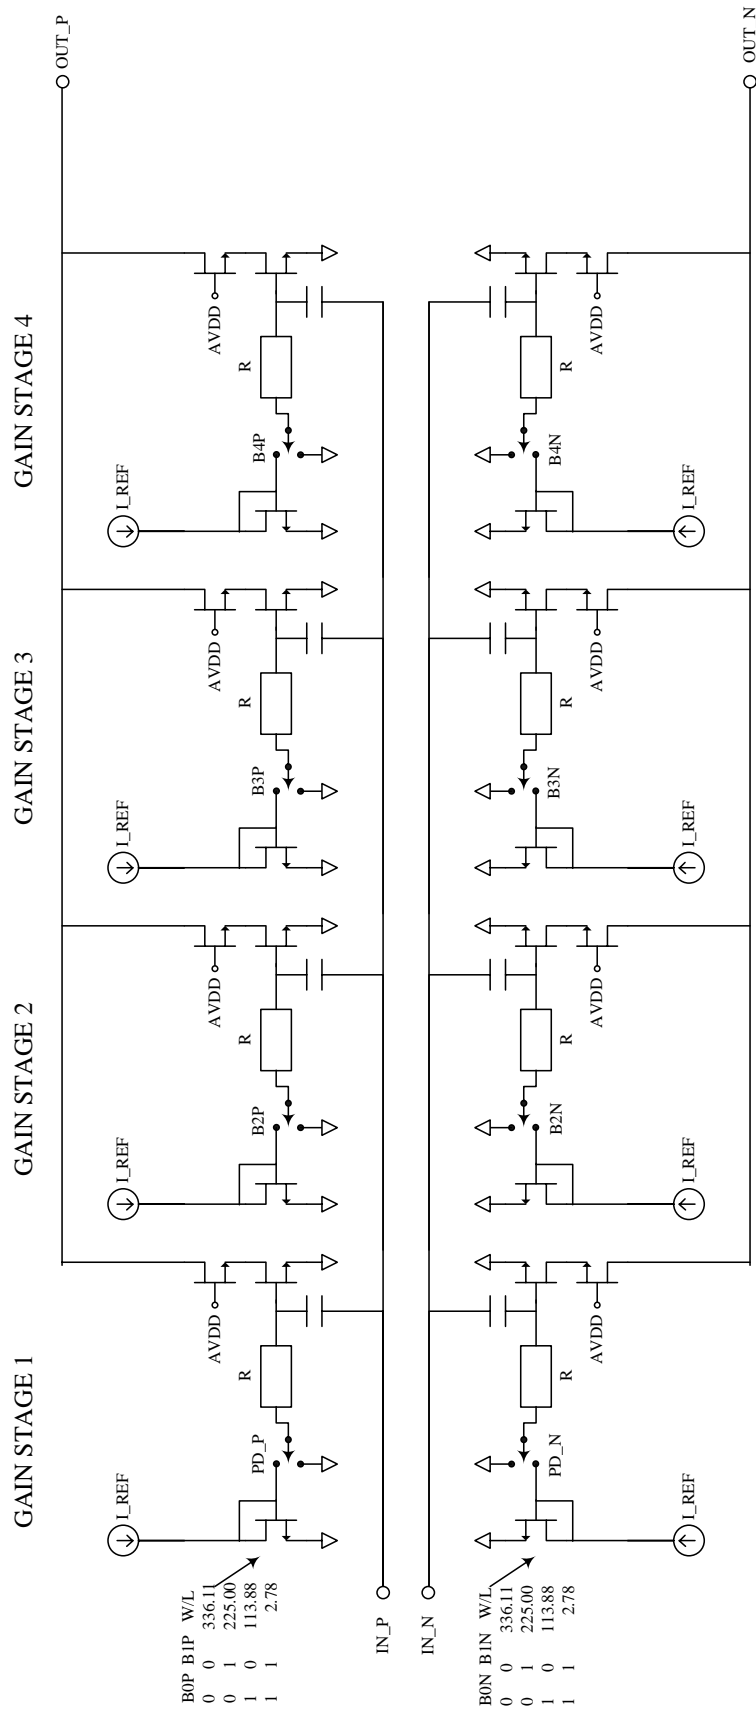

Figure 2. Power Amplifier for CC2430
The schematic drawing of the CC2430 power amplifier (PA) is shown in Figure 2. From this, it can be seen that the PA consists of 4 gain blocks where each has its own biasing circuit. The biasing currents for the different gain blocks are programmable through the TXCTRL[7:5].TX_CURRENT[2:0] register setting. The transistors in GAIN STAGE 1, GAIN STAGE 2 and GAIN STAGE 3 have fixed W/L ratios. The biasing voltage for these gain stages will therefore be proportional to $\sqrt{I_{REF}}$.